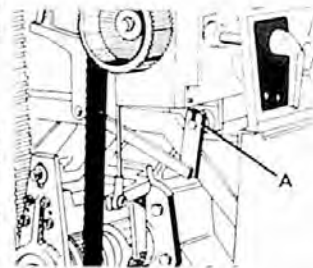

FIGURE 18
9. Should the clutch & brake lever hit the chip pan when braking, loosen clamp screw (A, Figure 18) and reposition the lever to provide adequate stroke.
2. Loosen capscrew in shift link arm (A, figure 18).